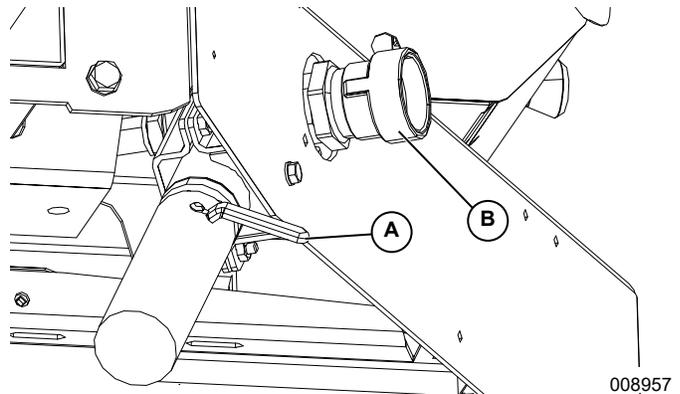

Figure 4-4. Inlet Water Filter
1. See **Figure 4-4**. Unscrew and remove water inlet (B).